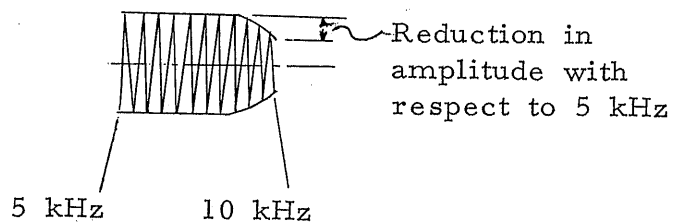

Fig. 3-4
4. If the amplifier has such a response that the amplitude at 10 kHz is reduced 6 dB with respect to that at 5 kHz, the amplitude at 10 kHz of the waveform displayed will be approximately one half that at 5 kHz as shown in Fig. 3-4.